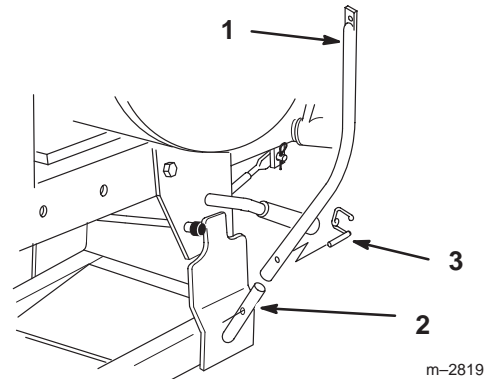

Figure 18
25. Slide handle support over pin on frame and secure with locking clevis pin (Fig. 18).